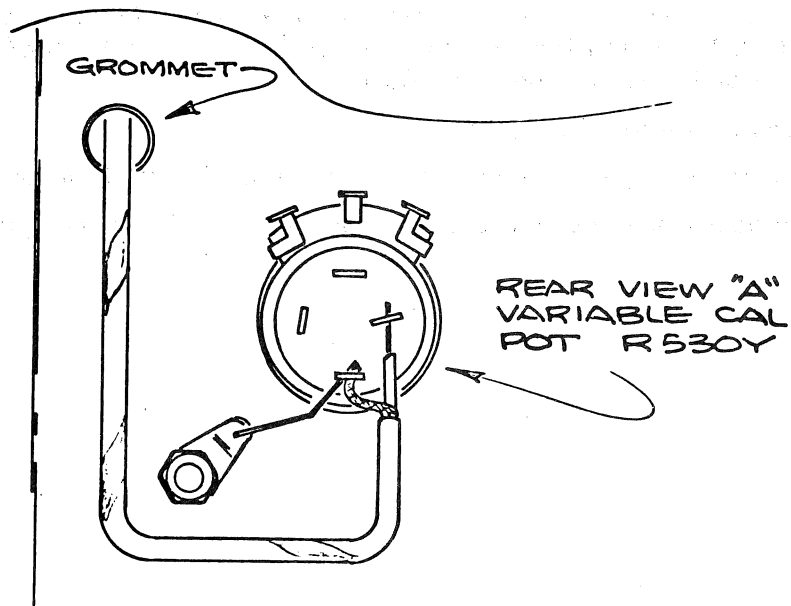

FIG. 2
- c) Solder the opposite end of the cable to the "A VARIABLE CAL" potentiometer as shown in Fig. 2.